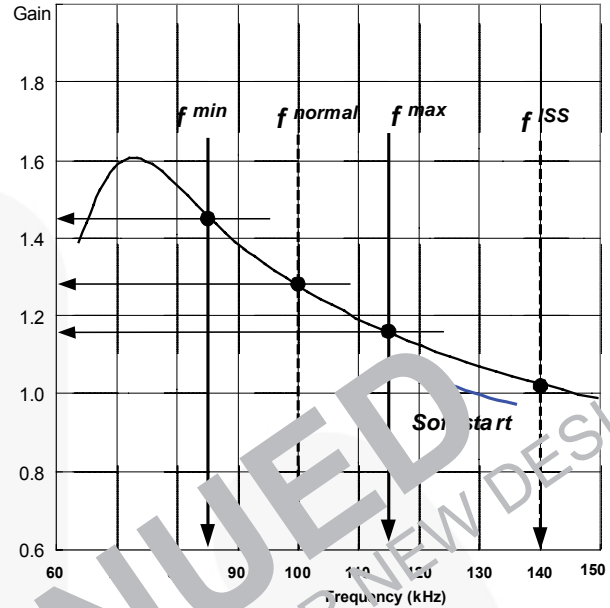
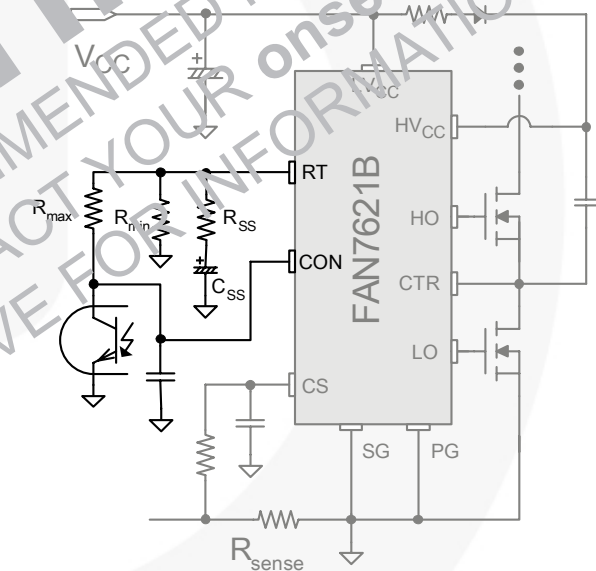
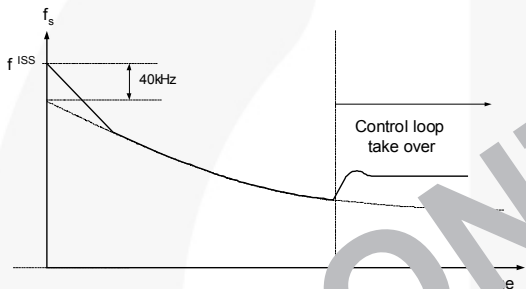

Figure 18. Resonant Converter Typical Gain Curve
Figure 19. Frequency Control Circuit
Figure 20. Frequency Sweeping of Soft-Start
**3. Frequency Setting:** Figure 18 shows the typical voltage gain curve of a resonant converter, where the gain is inversely proportional to the switching frequency in the ZVS region. The output voltage can be regulated by modulating the switching frequency. Figure 19 shows the typical circuit configuration for  $R_T$  pin, where the opto-coupler transistor is connected to the  $R_T$  pin to modulate the switching frequency.
proportional to the switching frequency, the soft-start is implemented by sweeping down the switching frequency from an initial high frequency ( $f^{ISS}$ ) until the output voltage is established. The soft-start circuit is made by connecting R-C series network on the  $R_T$  pin, as shown in Figure 19. FAN7621B also has an internal soft-start for 3ms to reduce the current overshoot during the initial cycles, which adds 40kHz to the initial frequency of the external soft-start circuit, as shown in Figure 20. The initial frequency of the soft-start is given as: